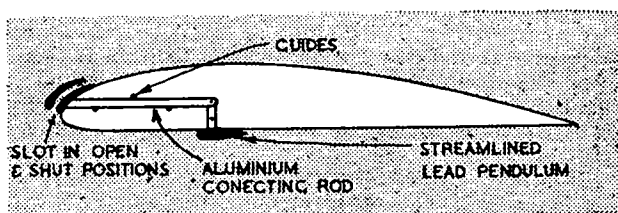

FIGURE 6.
A slot is cut in the tin in which the end of the arm (A) can slide. The slot is cut at an angle so that longitudinal movement of the wire (C) will cause a vertical displacement of the end of the arm (A). For ease of working the slot should never be more than 45 degrees to the horizontal, preferable about 30 degrees. If both ailerons are to be used they can be made differential (i.e. the upward movement of the aileron is much greater than the downward movement) by adjusting the shape of the slot (fig. 6).
An automatically operated slot has been devised by J. FORSYTH, of Thame, Oxon., who says he has successfully used it on his Ivory Gull. Fig. 6 shows the working layout. The slot is constructed from  $\frac{1}{16}$  in. sheet balsa and has an aluminium connecting rod cemented to it. The smaller rod is pivoted as shown, care being taken so that the distance between the weight and the pivot is smaller than that from the pivot to the connecting rod. The small streamlined weight, the size of which will be best found by experiment, is glued to the lower end of the pivoted rod.